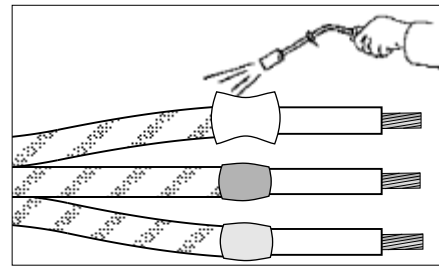

FIG 7
8. Position the short Phase Colour Sleeves centrally over the applied Yellow Stress Tape and shrink into position as shown in Fig 7. This protects the Tape whilst positioning the Connector Tubes and provides useful phase marking.